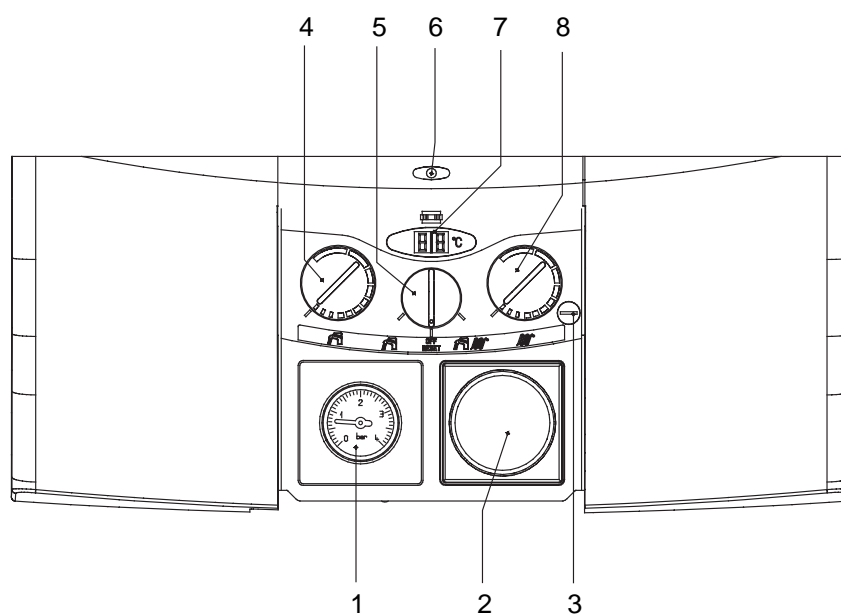

Fig. 1
2.2 APPLIANCE CONTROLS (see fig. 1)